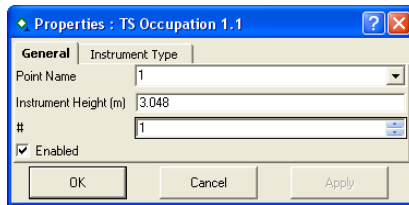

Figure 5-101. General Properties
- View or edit *General* tab fields (Figure 5-101 on page 5-71).